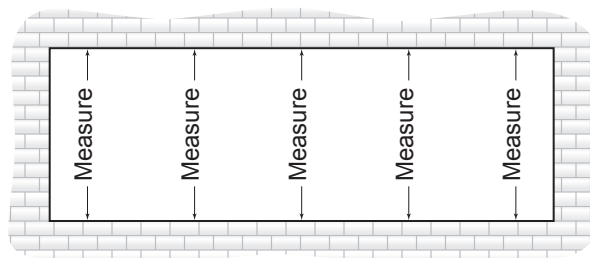

Fig. 23.3
- D. Measure the height of the opening (Rough Opening) at several points along the entire width of the opening. Select the smallest of these dimensions and subtract 1" to allow a minimum of 1/2" at sill and head for shim and caulking. **SEE Fig. 23.3.**